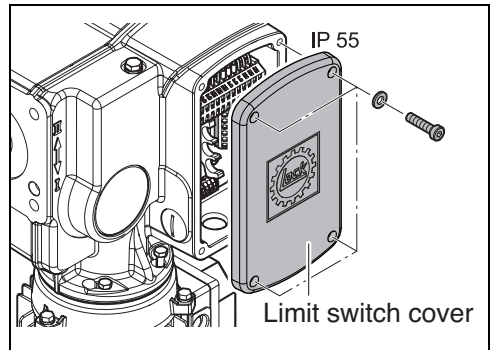

Fig. 35
- ▶ Remove the limit switch cover (see Section 5.5, page 22 and see Fig. 35). Use a Phillips screwdriver PH2, size 6.5.
- ▶ Refit the limit switch cover again with the 4 screws and washers and tighten the screws with a tightening torque of 22 lbf-in (2.5 Nm) (see Fig. 35).